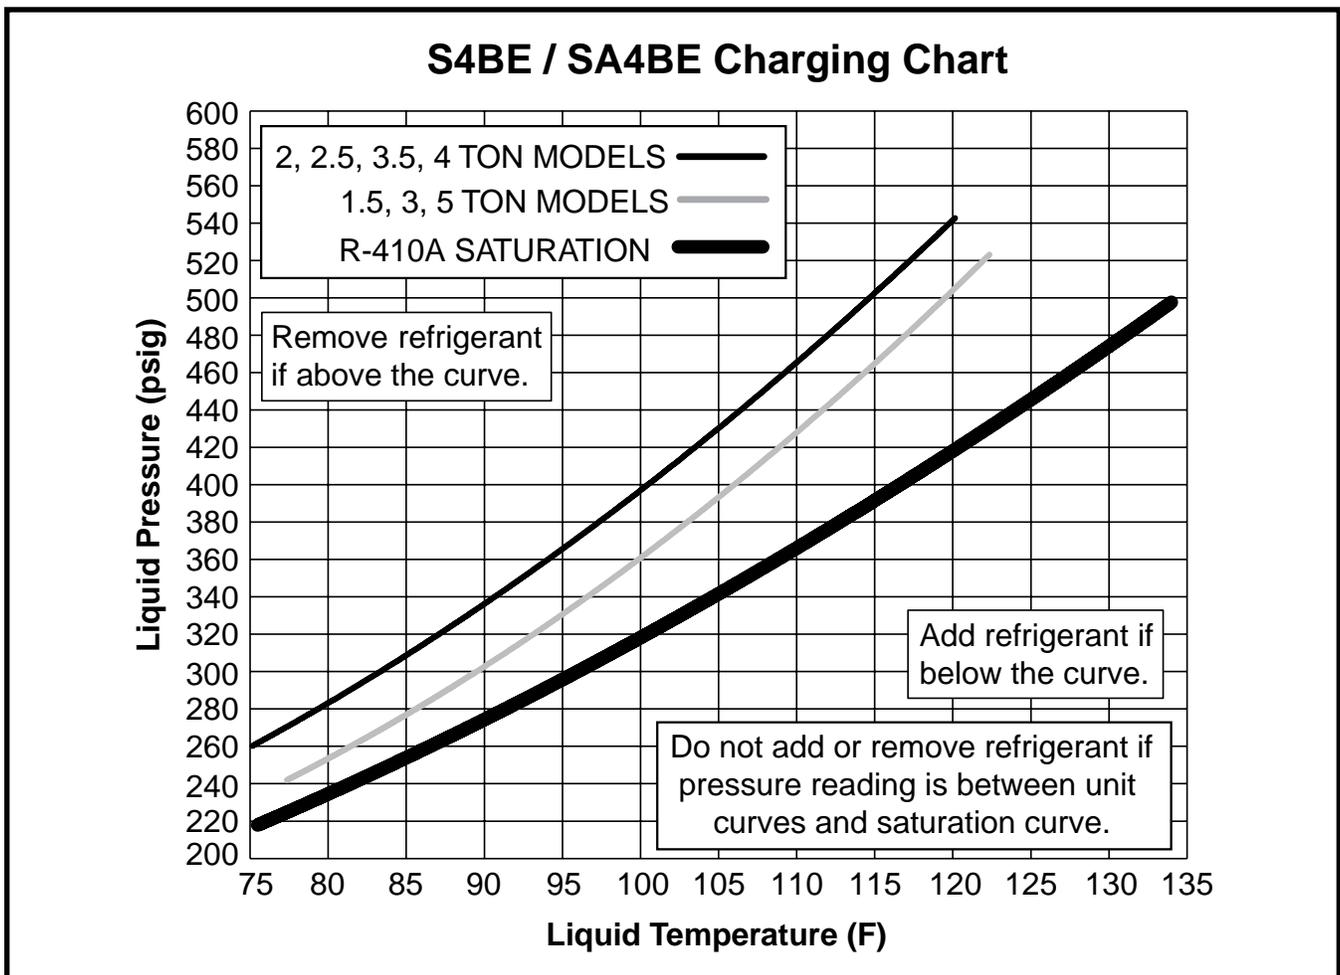

Figure 3. Charging Chart for S4BE-024-060 Series (2 - 5 Ton Units) - TXV Matches
- Refrigerant charging charts are applicable only to matched assemblies of NORDYNE equipment and listed airflows for the indoor coil. Refer to Figure 3 (page 8) for correct system charging.
3. Determine the required liquid refrigerant pressure from the charging chart (Figure 3, page 8).
- make sure the unit is in a stable operating mode. As shown in Figure 3 (page 8), the ideal system sub-cooling can vary over the range of operation. Reference the charts to determine the ideal amount of sub-cooling for a given liquid pressure. Units charged to other values will not perform at the rated unit efficiency (EER) or rated Coefficient of Performance (COP) in heating mode.